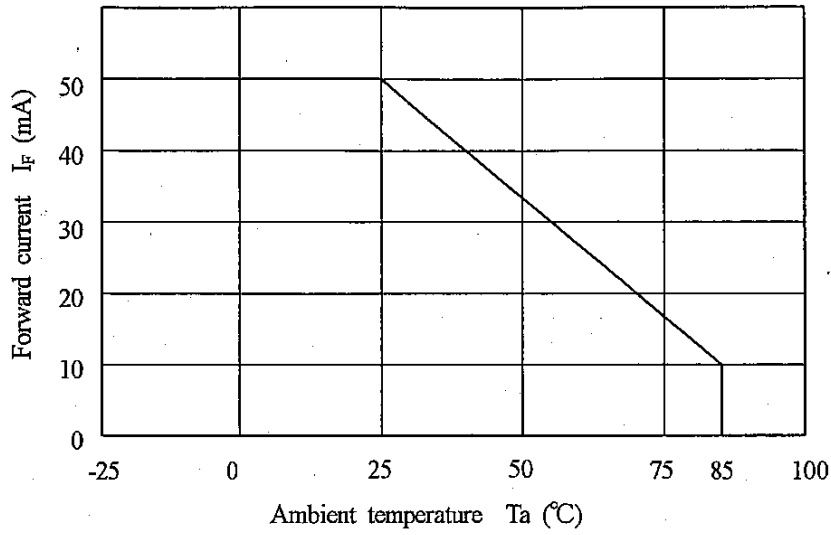

Fig.2 Collector power dissipation vs. ambient temperature
- Put a maltplane and partition into a device case. Put a bag into a partitioned box. (10 bags per case) and put a maltplane. (Fig. 2)